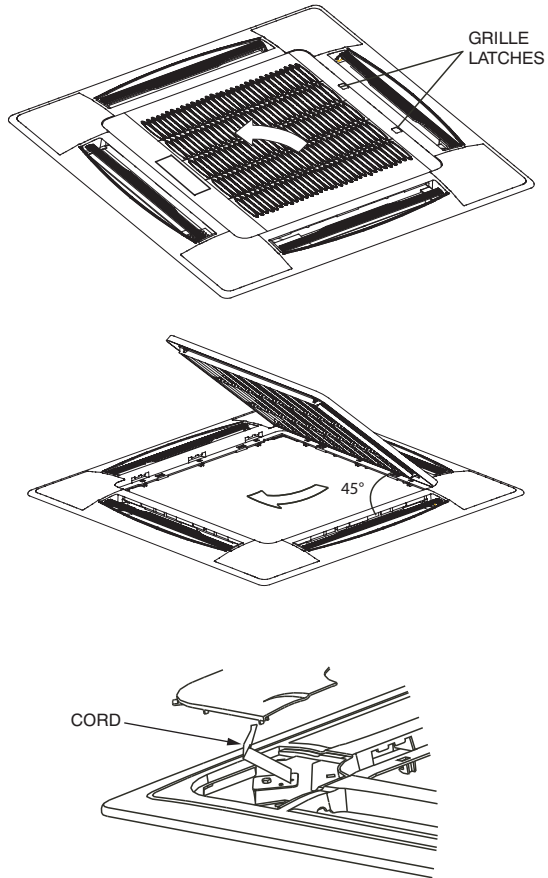

Fig. 11 — Removing Grille from Panel
3. Unscrew the bolts on the four corners of the cover panel. Remove the cover by loosening the cord. See Fig. 11.